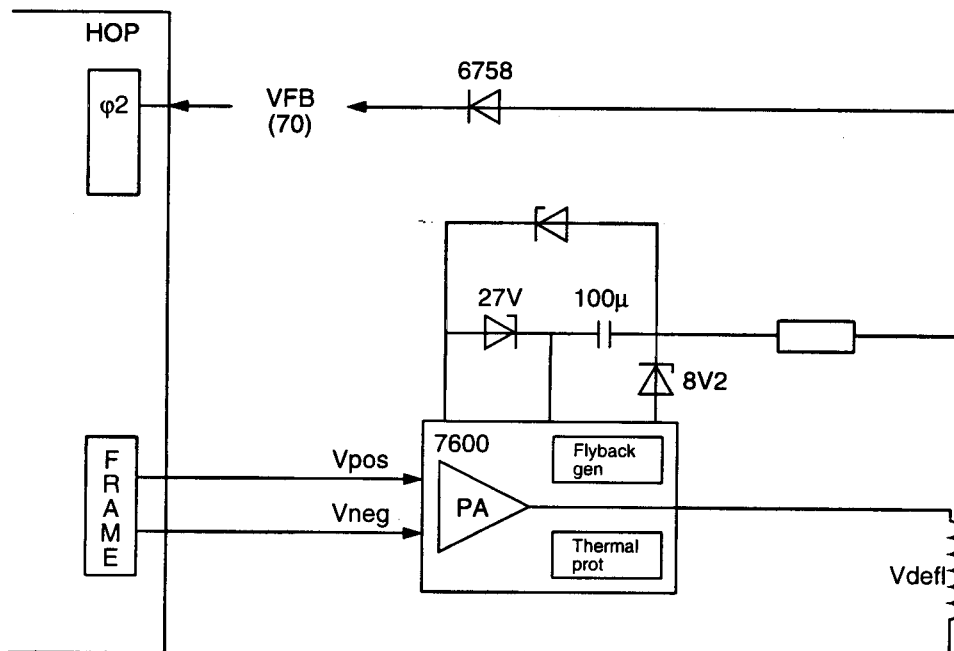

Figure 5-9
5.4.4 Protections from the status register of the HOP (fig. 5.9)
HFB : Horizontal Flyback (See detailed figure 5.9) Missing the horizontal fly back pulse is detected via an input of the HOP. One status bit is set to 'high'. The error code is stored in the error buffer and the set will go into the protection mode
VFB : Vertical Flyback (See detailed figure 5.9) The HOP will blank the screen, if the vertical flyback signals are not present at the VFB-guard input. The relevant status bit will